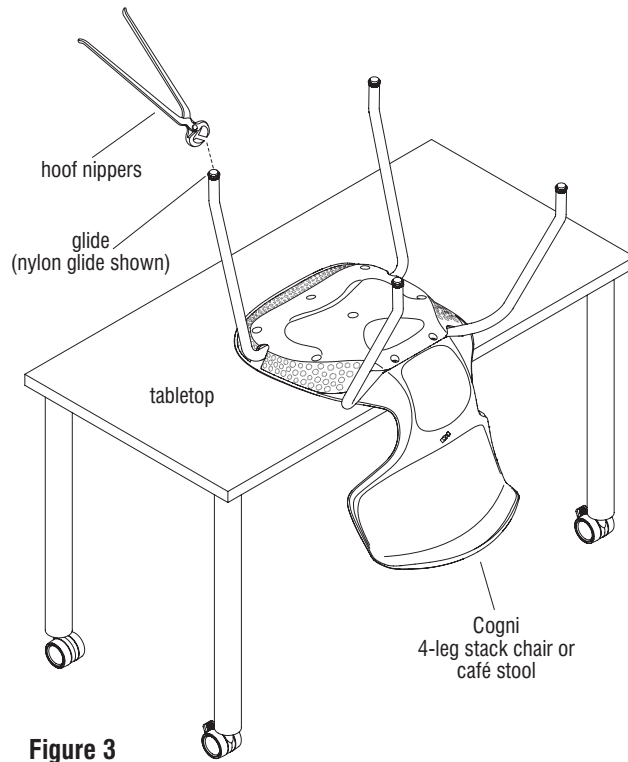

Figure 3
1. Place the chair upside down onto a soft, protective surface, or with the seat portion sitting on a table as illustrated (Figure 3).